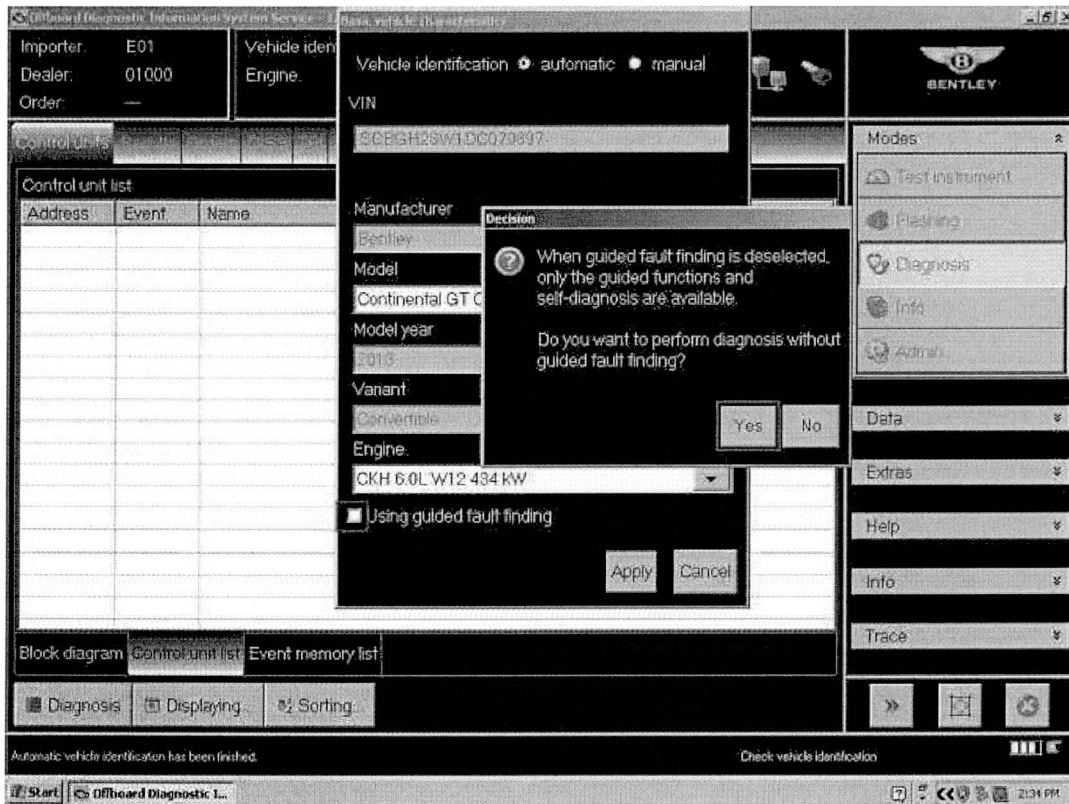

Figure 1
8. Deselect Guided Fault Finding – remove tick from *Using guided fault finding* option – then select *Yes* at pop-up and *Apply* (see Figure 1)